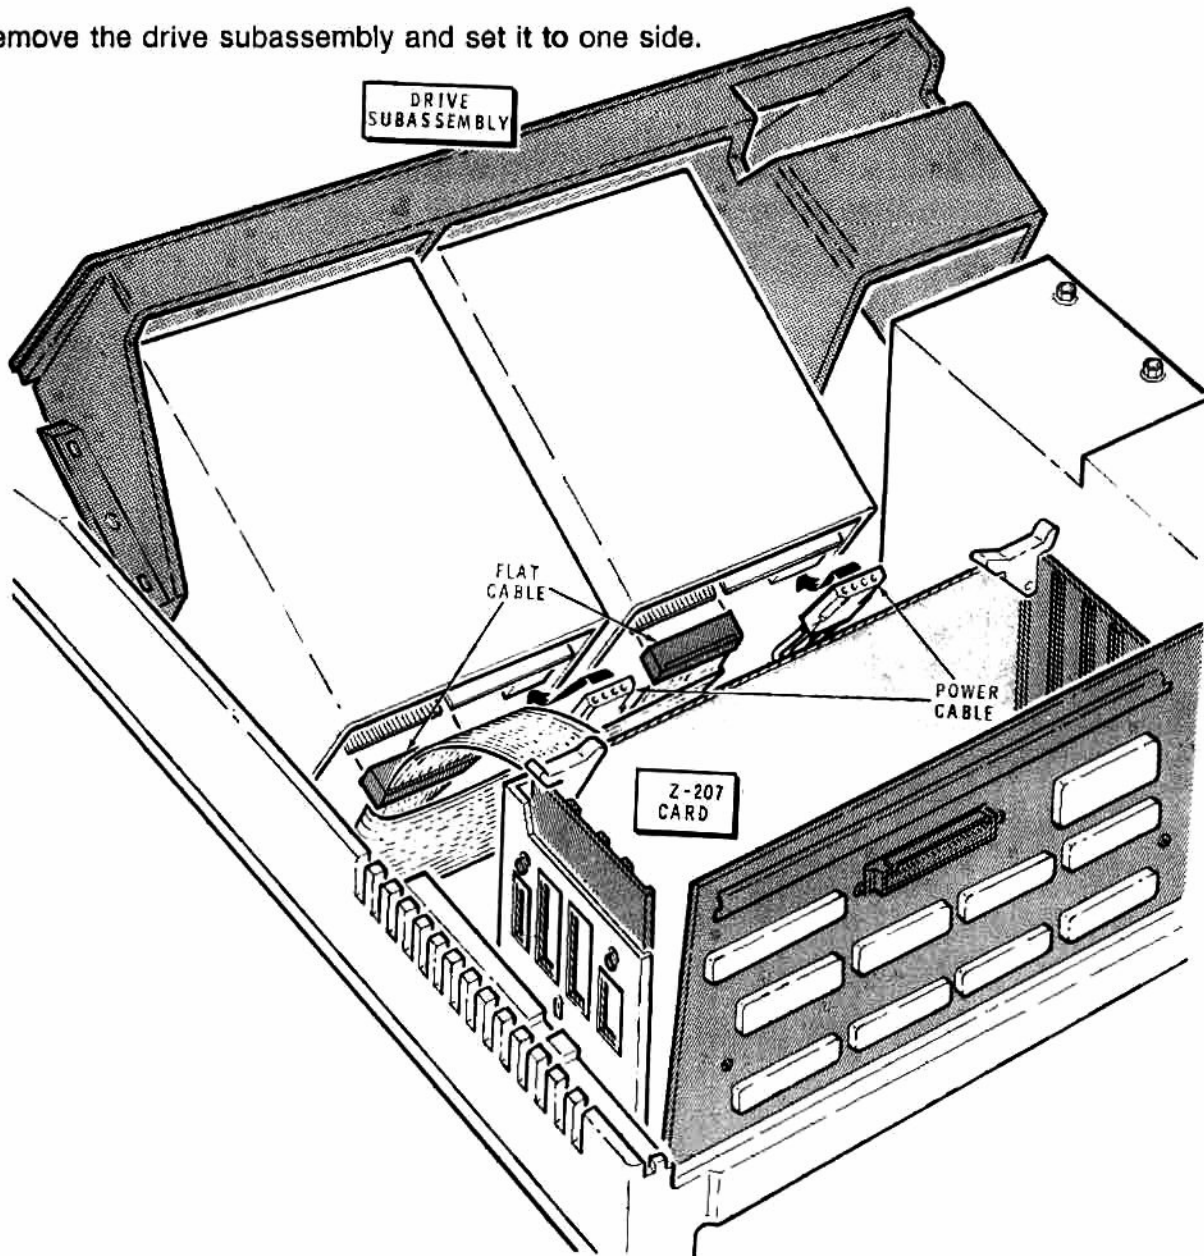

Figure 2.6. Disconnecting the Drive Subassembly
- Refer to Figure 2.6 and carefully unplug the flat cables from the disk drives, as shown.